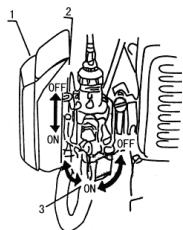

Fig.9
- Turn on the fuel switch, see Fig.9.